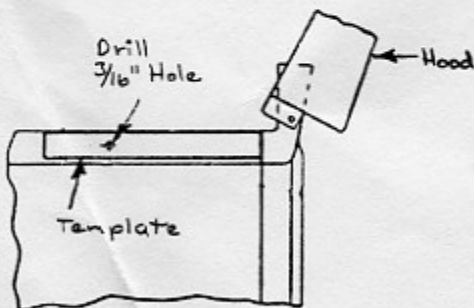

Fig. 6 - Right Panel
4. Locate and drill 3/16 inch hole in right side panel using template provided as shown in Figure 6 . Place a cloth inside the drilling area to prevent metal chips from entering the compartment.